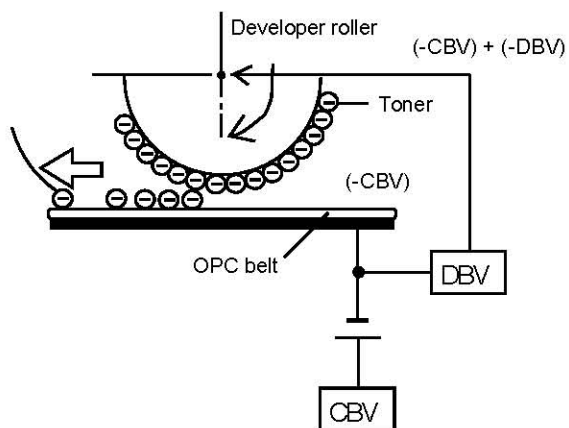

Fig. 4-15
- ii) The developer roller has been biased to the potential  $-DBV(V)$ . Fig.4-15 describes the relationship established between the potential of the toner, the potential  $-V_0(V)$  at the non-exposed area of OPC belt and the potential  $-VR(V)$  on the exposed area of the OPC belt.